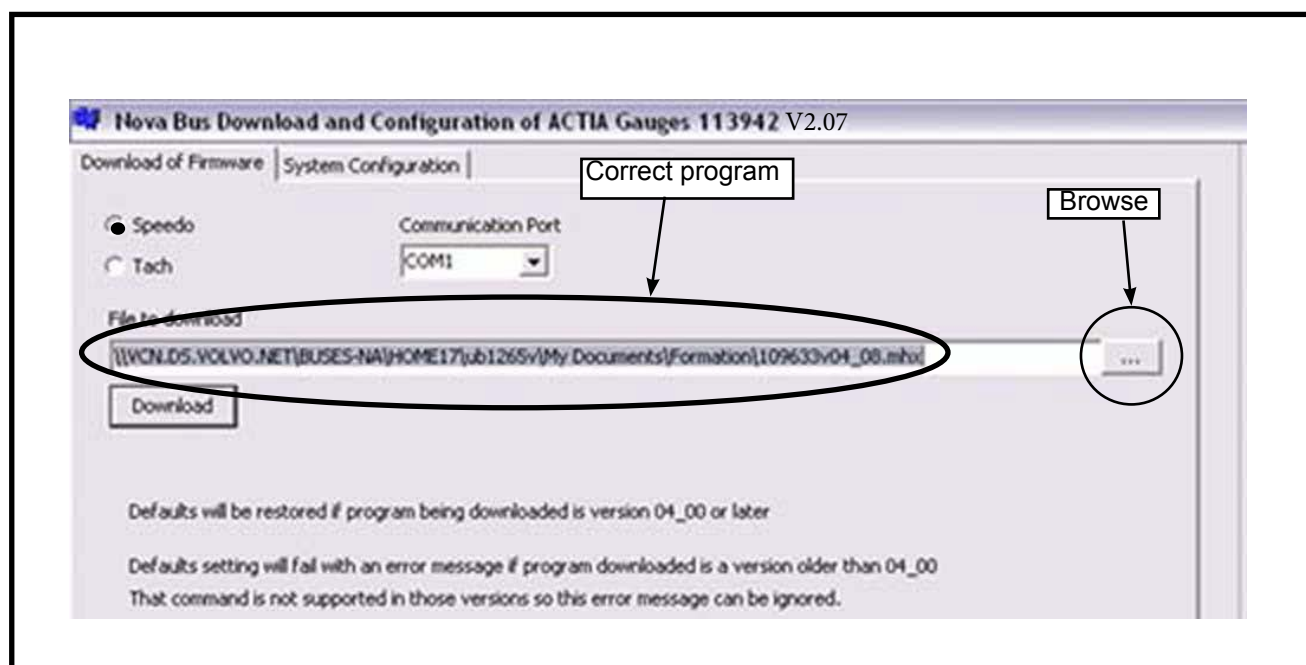

Figure 13 - Select the File to Download
3.1.8 Use the Browse button to select the right program for the gauge being reprogrammed (see Figure 13).